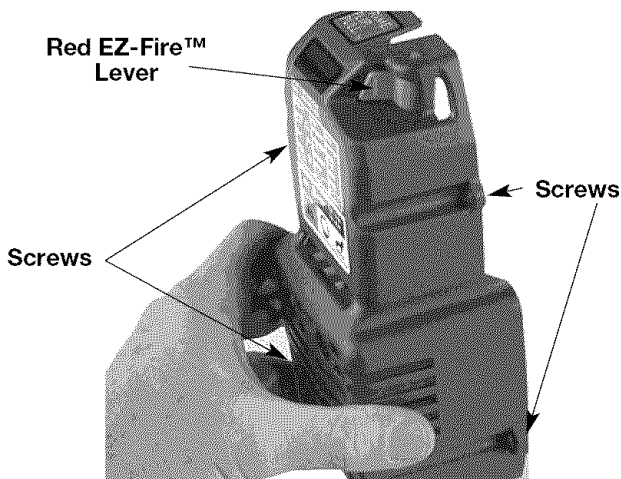

Fig. 16
1. Remove the four (4) screws securing the air filter/muffler cover (Fig. 16). Use a flat blade or T20 Torx bit screwdriver.
2. Insert the four (4) screws into the holes in the air filter/muffler cover (Fig. 16) and tighten.